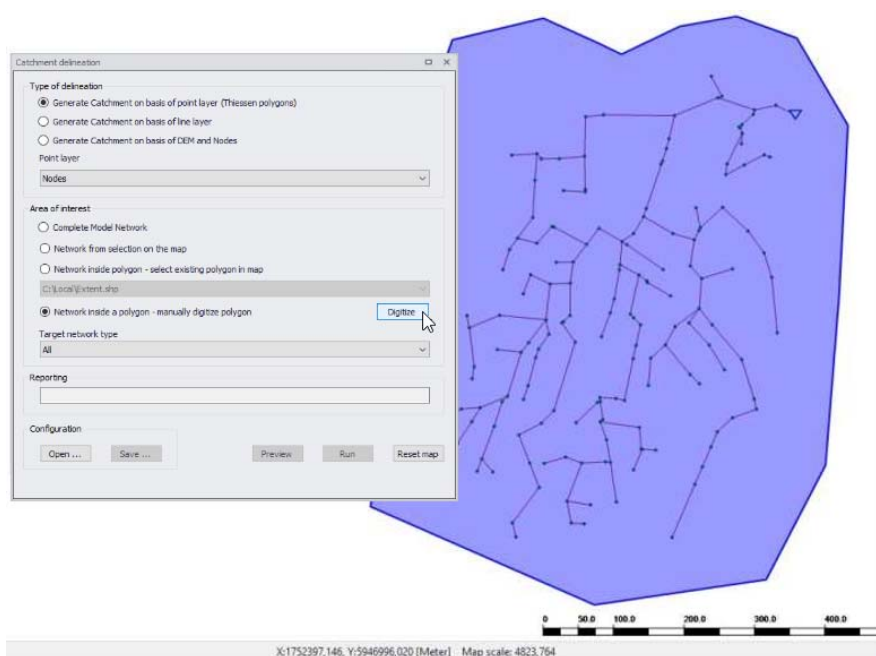

Figure 11.22 Digitizing the boundary on the map via the 'Digitize' button
- **Network inside polygon** - manually digitize polygon. Manually digitize the polygon on the map. If this method is selected, use the 'Digitize' button to draw the boundary directly on the map, ending the digitization with a double-click. See Figure 11.22. A catchment will be delineated around each network element within this polygon.